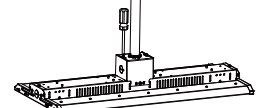

Figure 4
- Step4. Lock side brackets with screw driver (Figure 4).